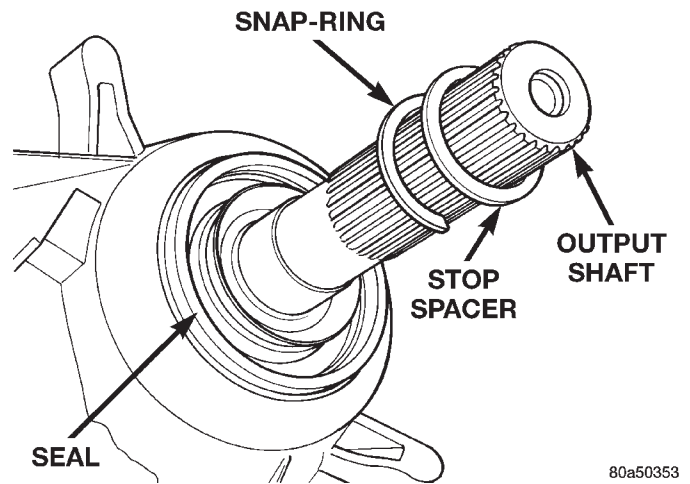

Fig. 11 Slinger Stop Spacer and Snap-ring
(3) Remove slinger stop spacer and snap-ring from output shaft (Fig. 11).